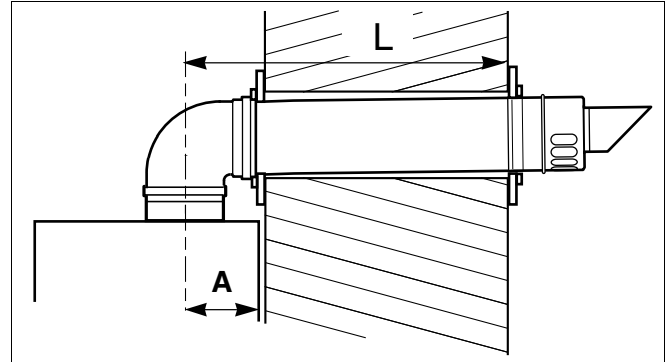

fig. 22 Flue length - rear
- Measure the flue length L. Refer to figures 22 and 23.